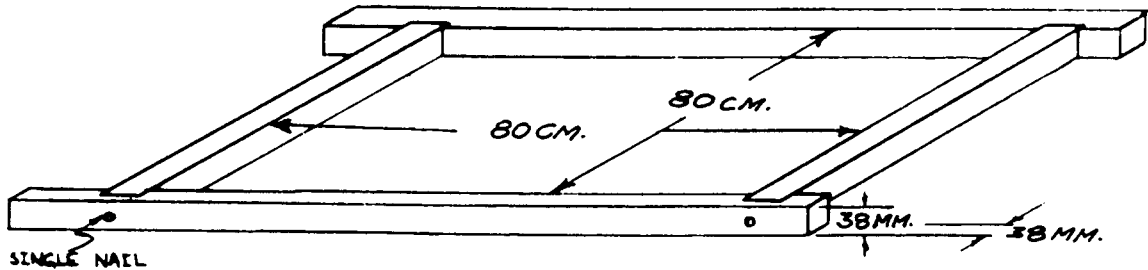

FIGURE 7 FRAME
3. Using 38mm x 38mm (1 1/2" x 1 1/2") wood, make a frame with inside dimensions of 80cm x 80cm (31 1/2" x 31 1/2"). (See Figure 7.)